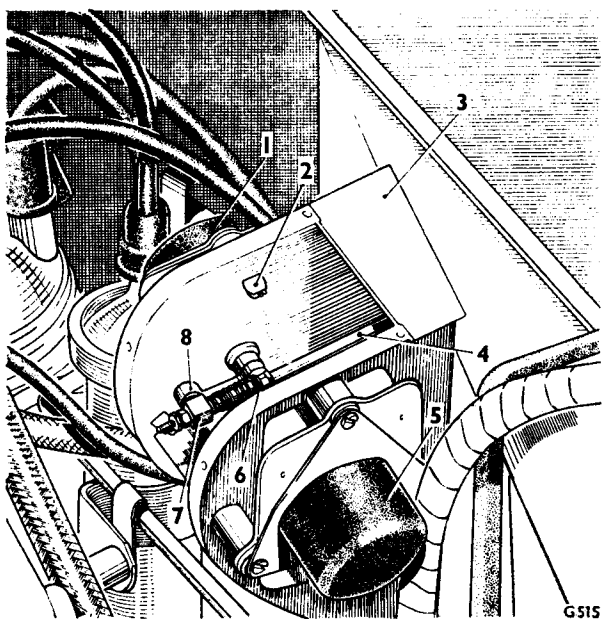

FIG. C7 UPPER TEMPERATURE FLAP ACTUATOR SETTING
(see Fig. C7)
3. Fit and tighten the actuator lever onto the spindle in the position shown in Figure C7.